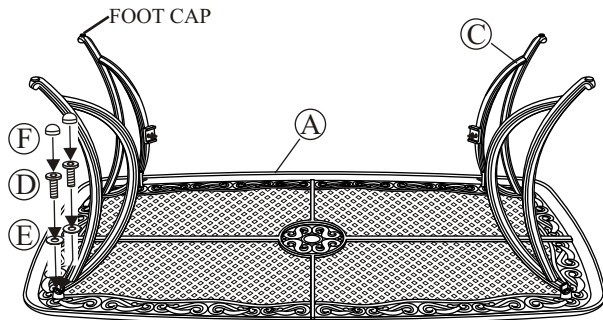
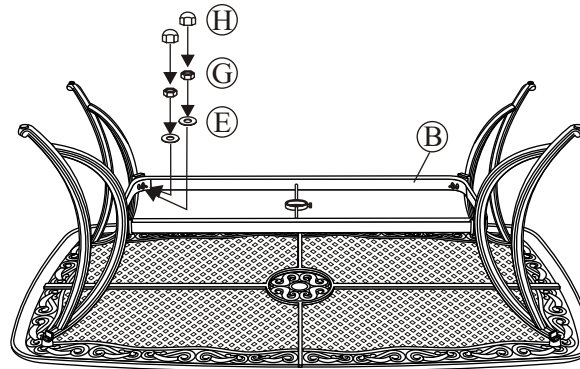

Fig.1
Fig.2
Step 2: Place the table top upside down on a flat, non-abrasive surface. Attach a table leg to the table top by using the bolts and washers as shown in Fig.1. Guide bolts through holes in the table legs and into the pre-drilled holes in the table top. **Hand tighten 2-3 turns only.** Repeat for the other three legs.
Step 3: Attach a leg to the leg connector bracket by carefully guiding the bolts already in place on the table legs (each leg has two bolts) through the holes in the leg connector bracket. Add a washer and a nut to the end of each bolt as shown in Fig.2. **Hand tighten only. Do not tighten completely.** Repeat on the other three legs.
Step 3: Important: We recommend 2 people work together to assemble the chair. Note the arrow labels on the "U" bar and the rocker assembly. Also note the horseshoe shape of the rocker plate. Point the open end of the horseshoe away from you. The arrows on the rocker assembly should be pointing towards you. Set the chair frame on the rocker assembly with front of the seat facing you and the arrows on the "U" bar pointing towards you as shown in *Figure 1*. This is very important for a safe, balanced rocking motion. **If chair frame has been properly positioned on the rocker assembly, all arrows on the "U" bar and rocker assembly will be pointing in the same direction.**
Step 4: Critical Step: The "U" metal plates must be installed in the proper location. Read this step and carefully examine. Insert the "U" metal plate, so that the "U" bar and rocker plate are between both sides of the "U" metal plate. Make sure that the holes in the "U" metal plate are completely aligned with the holes in the "U" bar as shown in *Figure 1*. Guide the bolts through the holes on the top side of the "U" metal plate, through the holes in the "U" bar portion of the chair, through the holes in the rocker plate and then, most importantly, through the holes in the bottom side of the "U" metal plate. It is very important that the holes in the bottom portion of the "U" metal plate be placed directly beneath the holes in the rocker plate. Add a spring washer and a nut to each bolt as shown in *Figure 2*. **Hand tighten nuts 3-4 revolutions only.** Repeat the same procedure on the other side.